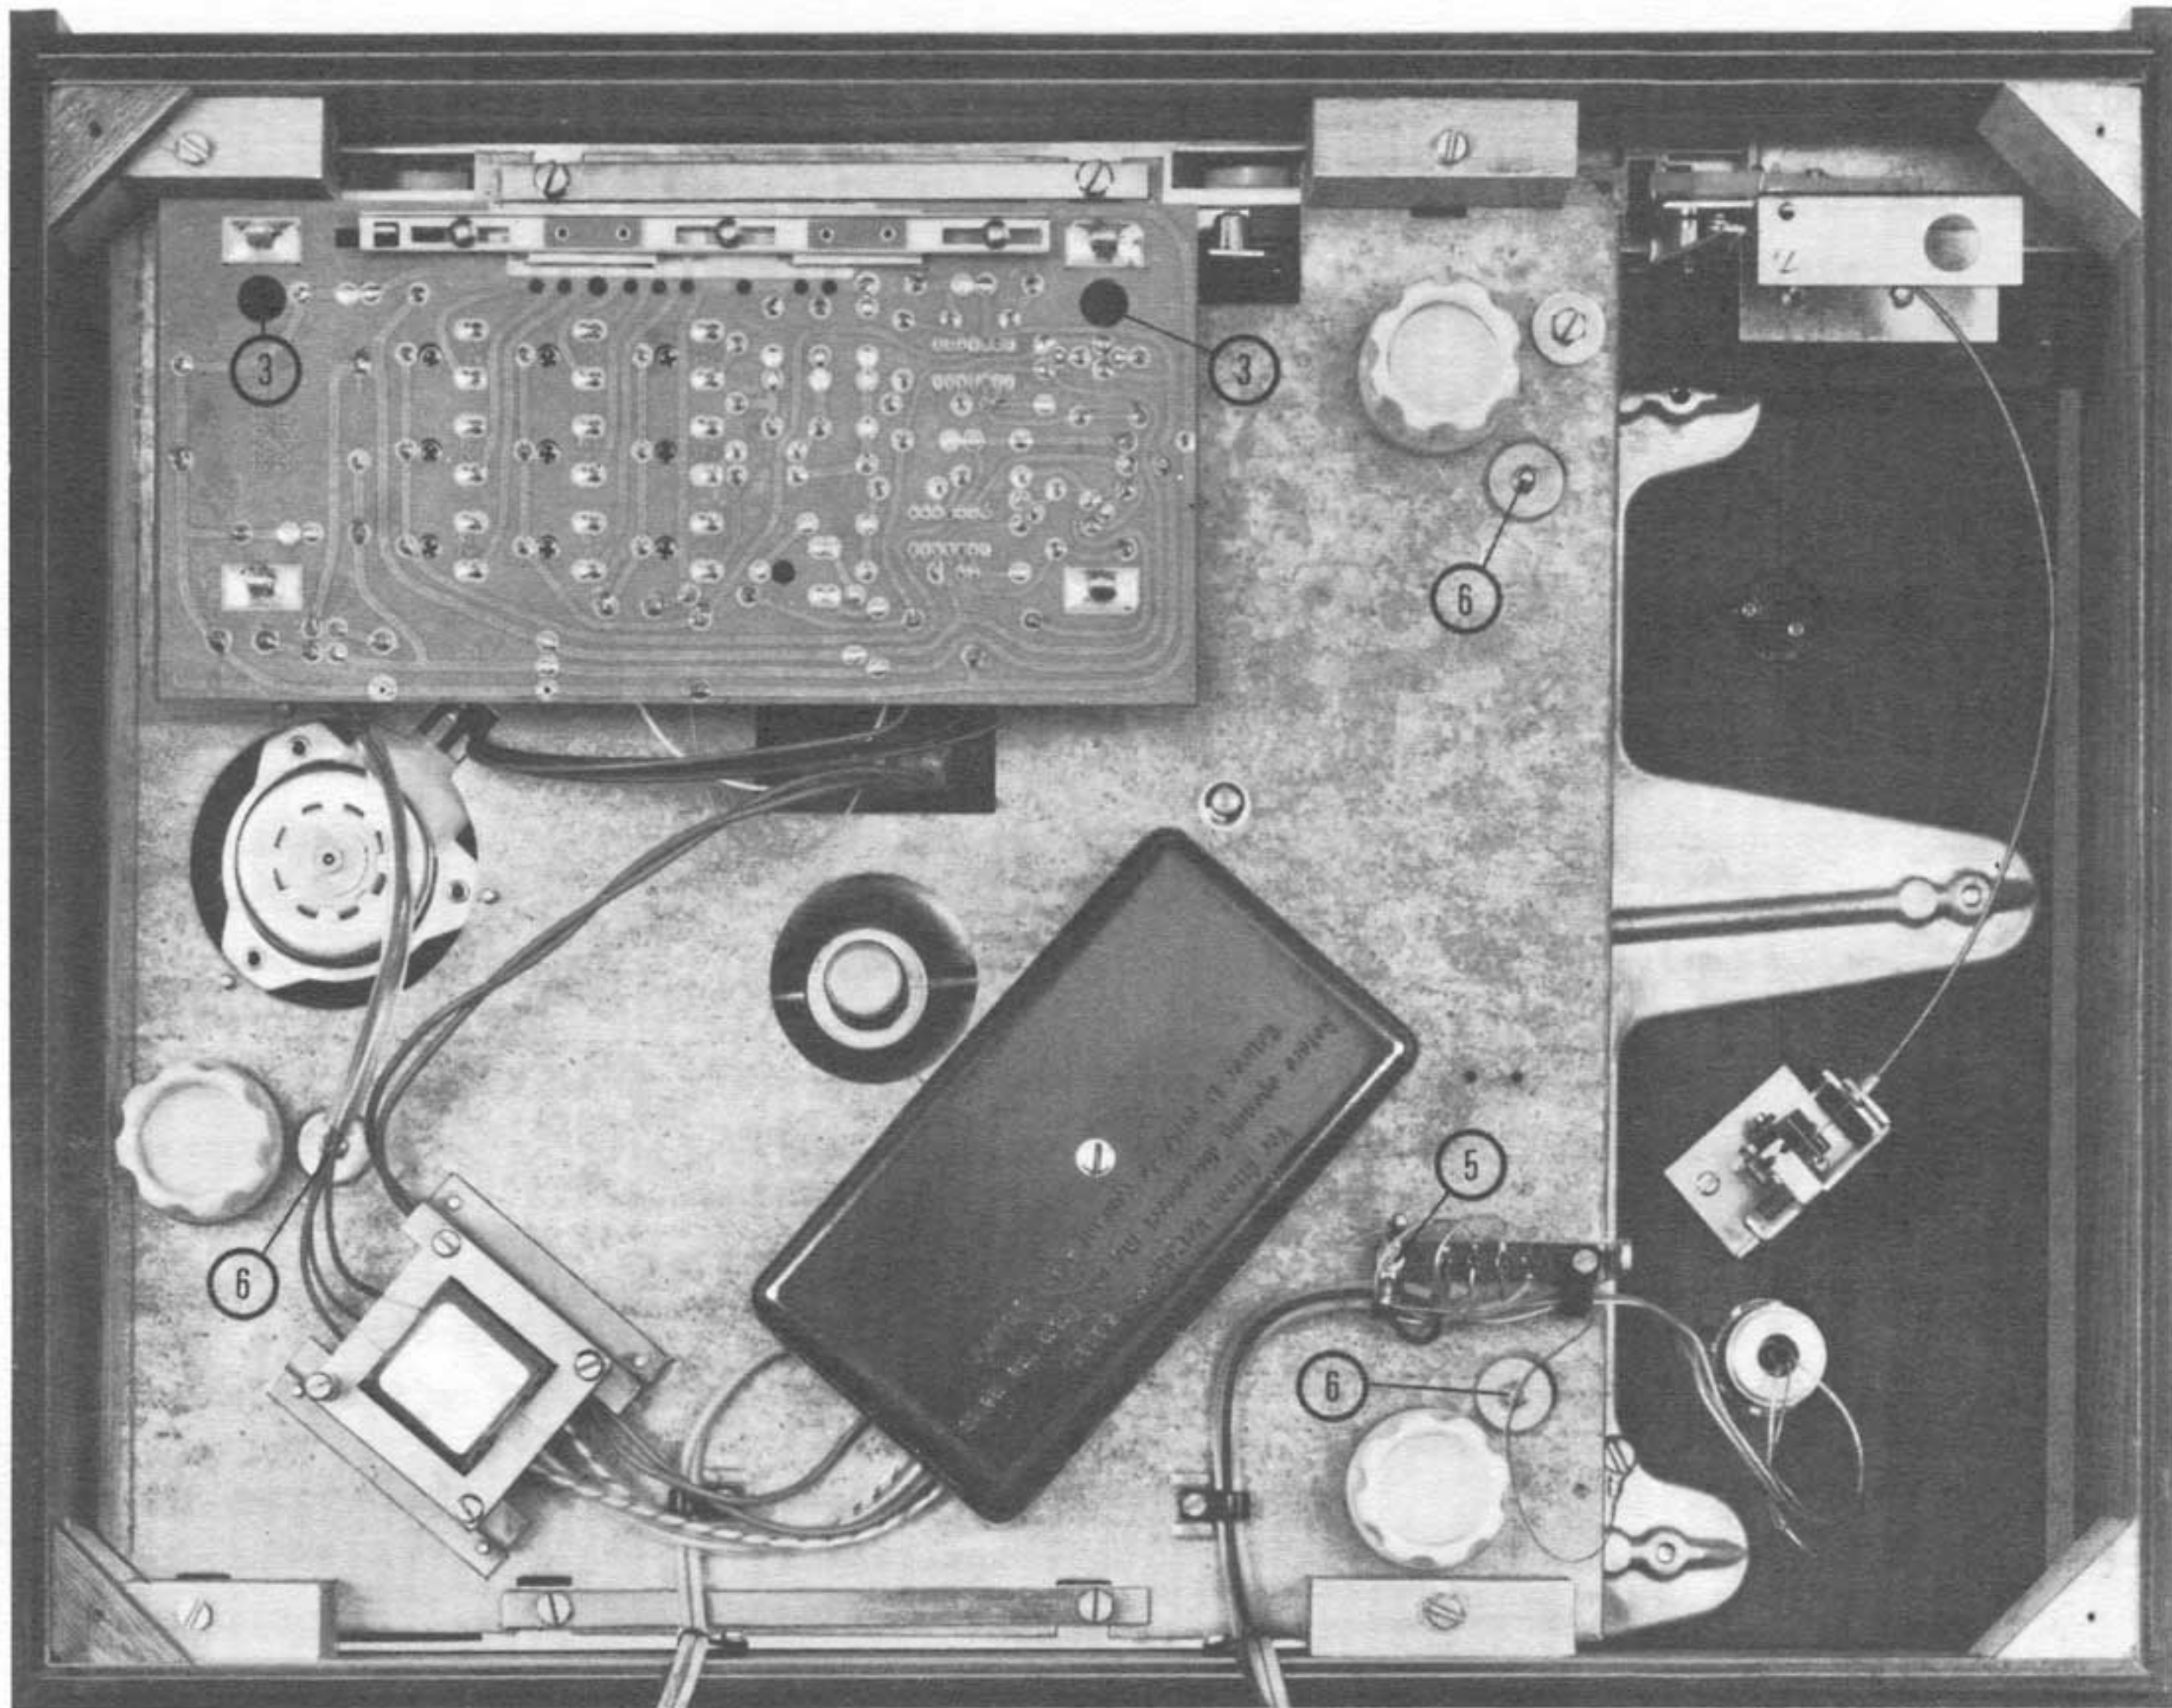

FIG. 4
The entire generator circuit board can be removed after unscrewing both hexagonal slot screws which are accessible through the holes in the printed circuit Fig. 4 (3).
Unscrew the earth connecting cable between both chassis at one end Fig. 4 (5). Unscrew the nuts Fig 4 (6), remove the spring washer, the spacer and the rubber grommet which are situated under every knurled nut. Now the spring suspended chassis can be removed.